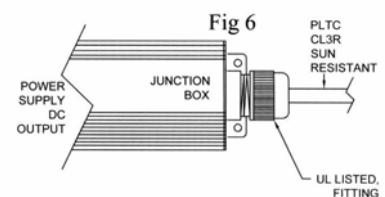

Fig 6
- Conduit fittings shall be used: UL Listed Heyco LTF1/2, AVC industrial FGA13-08 or equivalent (Fig6).
- Output cord must be rated and marked PLTC and CL3R and “Sun Resistant” (Fig6).